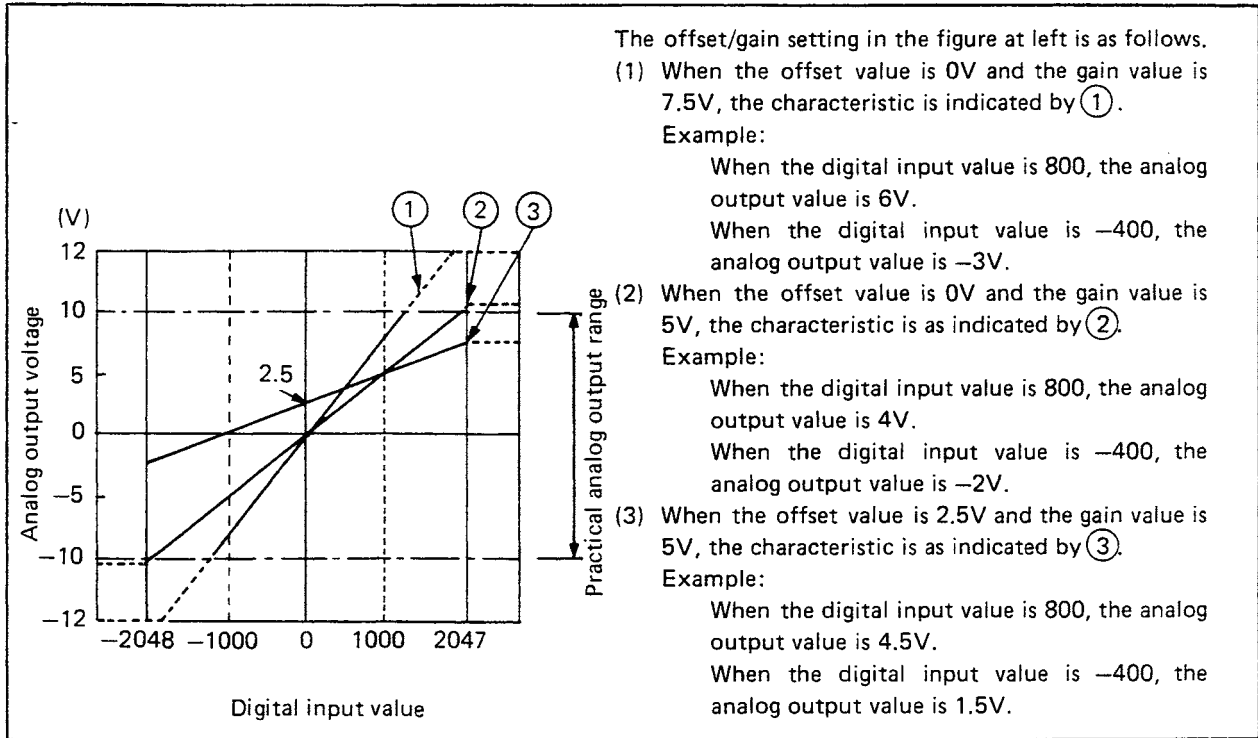
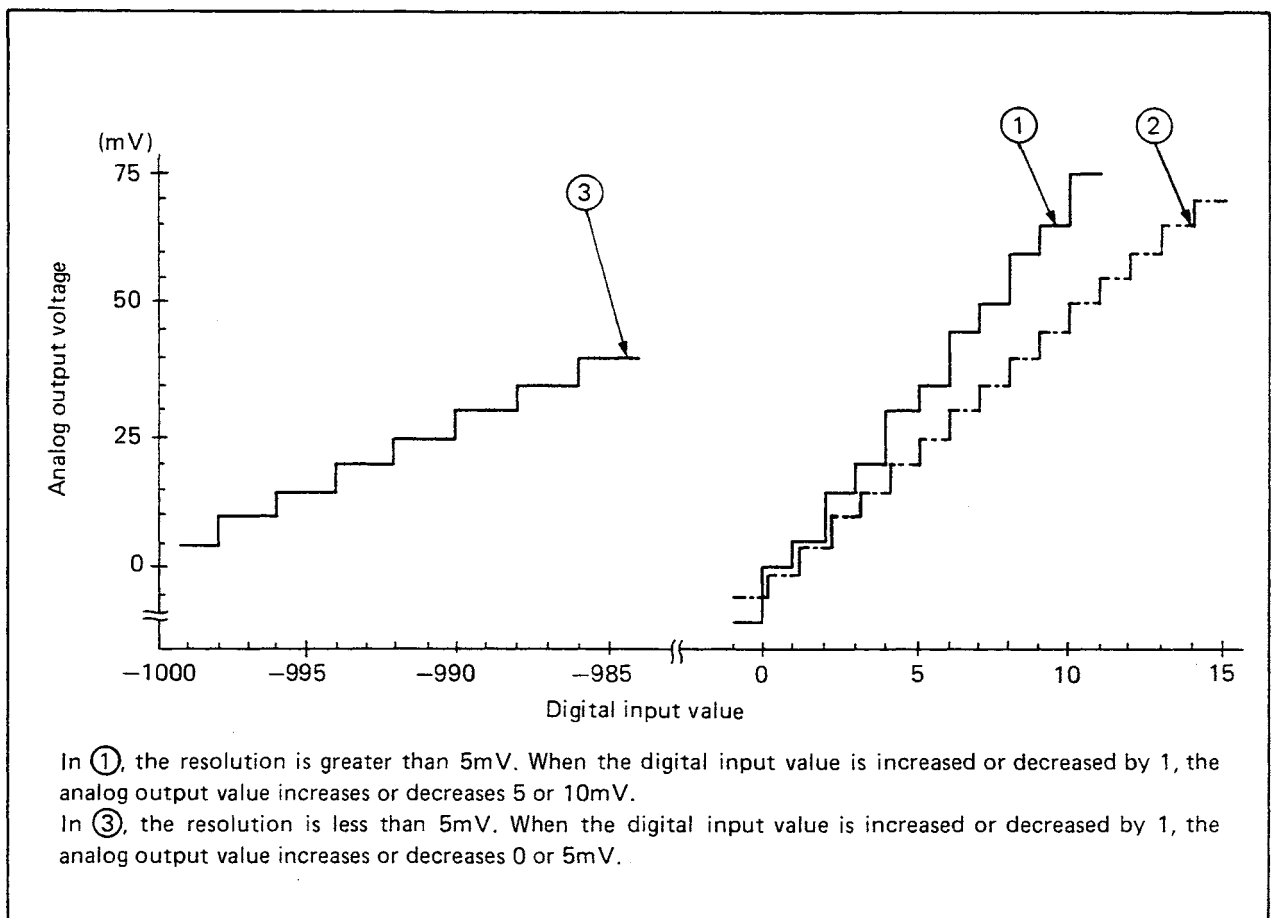

Fig. 2.2 Voltage Output Characteristic
Fig. 2.4 Digital Input Value and Voltage Output
Fig. 2.2 shows a voltage output characteristic example for several offset/gain settings.
1. The maximum resolution and overall accuracy are within the range of performance specifications when the working analog output range is -10 to 0 to +10V. Avoid use outside the above indicated range (dotted line on the voltage output characteristic graph in Fig. 2.2).
Fig. 2.4 and 2.5 show the relation between the digital input value and the analog output value when the offset/gain setting is changed. The offset value and gain value are values in the voltage and current output characteristic graphs in Fig. 2.2 and 2.3.